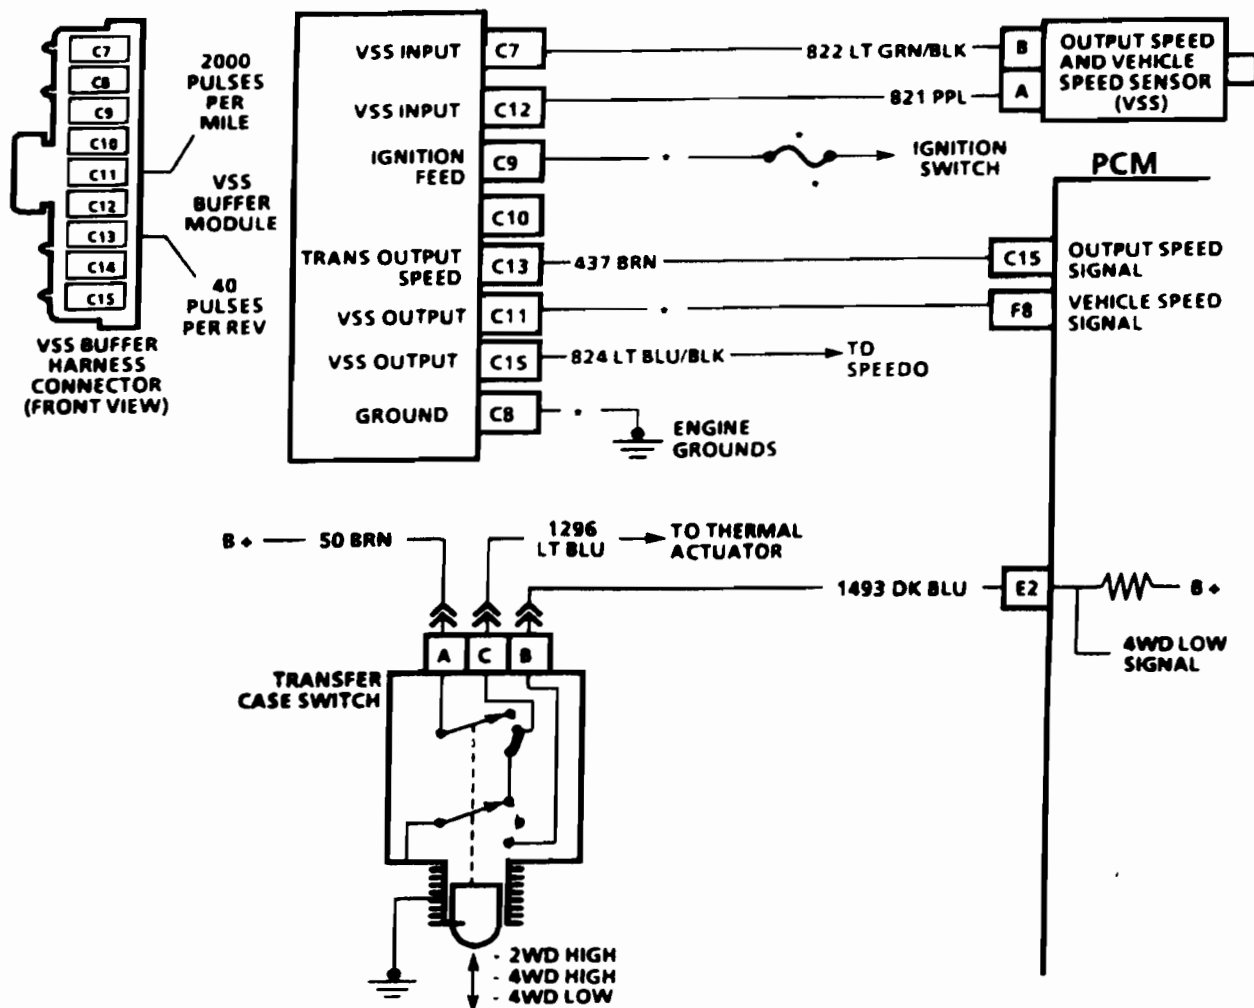

Figure 61
- (1) TRANSMISSION OUTPUT SHAFT SPEED SENSOR - Eliminated *on 4WD models only*, and a plated steel expansion plug was installed in the case bore to retain a common case, as shown in Figure 60. All 4WD models now use the Output Speed Sensor located on the transfer case as the *only* vehicle speed information sent to the speed buffer (See Figure 61).
- (2) TRANSFER CASE SWITCH - Previously used to energize the front drive axle thermal actuator, now has an added set of contacts incorporated inside the switch, and an added wire to signal the PCM/TCM when the *4WD LOW* range has been selected (See Figure 61).